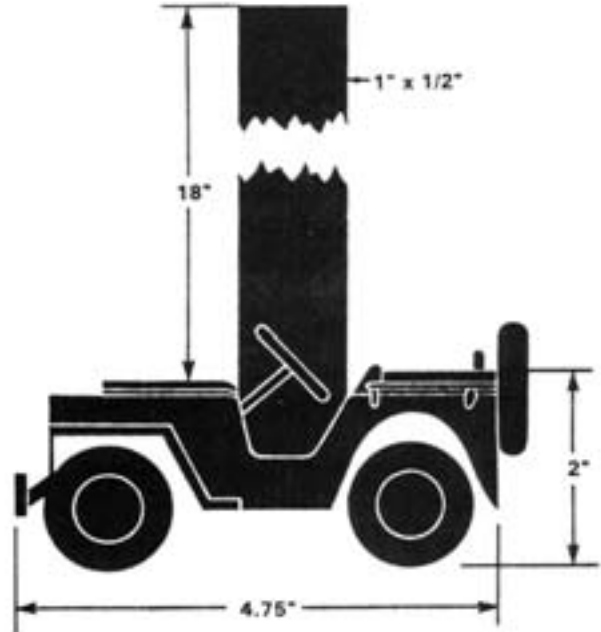

Figure 4-110. Aiming Target Used in Tracking and Leading Exercises.
a. Target Construction. In order to perform tracking and leading exercises, a target must be fabricated. The target must consist of a light colored background and a movable dark colored vehicle silhouette. The light colored background can be fabricated by tacking cardboard or paper to a standard 12.7-meter target frame. The movable vehicle silhouette is fabricated from cardboard as shown in figure 4-110. A Marine designated as a target handler moves the vehicle silhouette in front of the light colored background by means of the 18-inch silhouette extension tab.